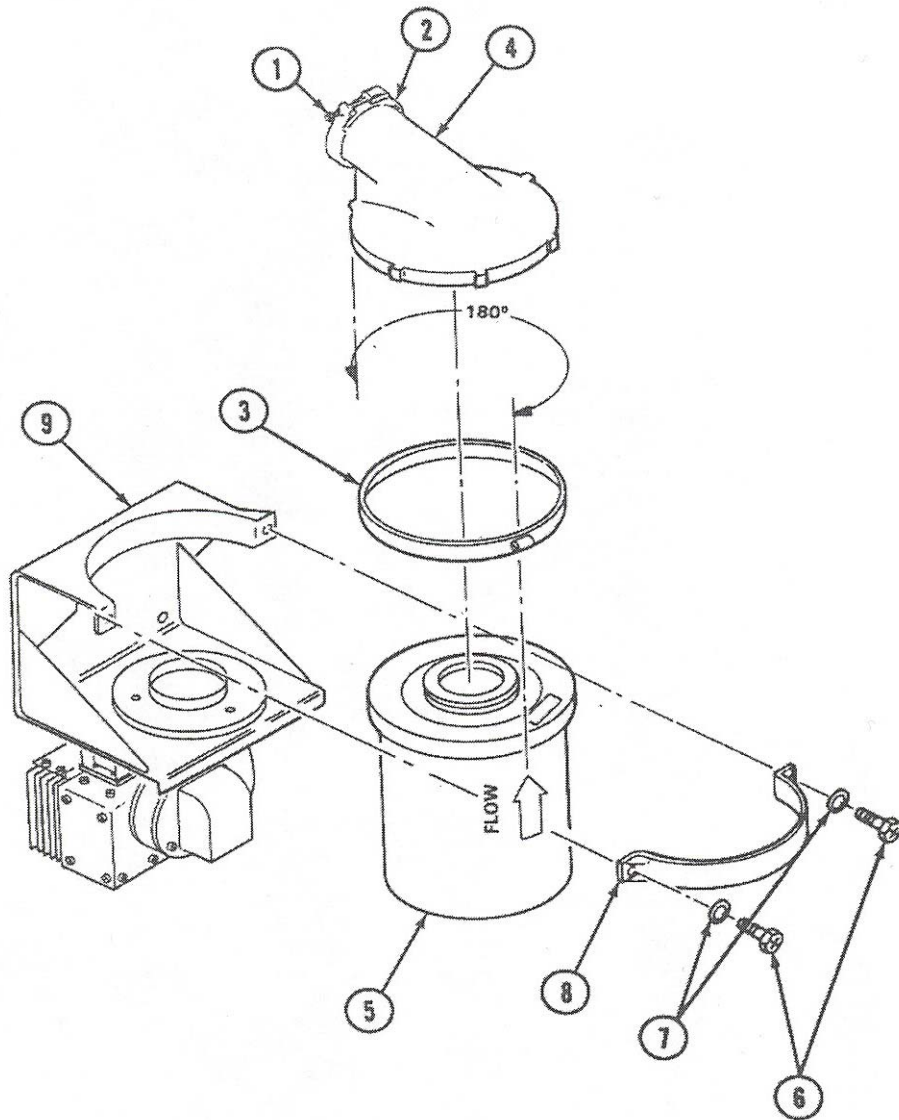

Figure B-1.
1. Loosen nut (1) and remove assembled clamp grooved coupling (2) (see figure B-1).
2. Loosen hose clamp (3) and remove outlet transition (4) from filter canister (5).
3. Remove two bolts (6) and washers (7), securing retaining strap (8) to support bracket (9).
4. Remove assembled filter canister (5) from shelter inlet by lifting it from its seal in support bracket (9).